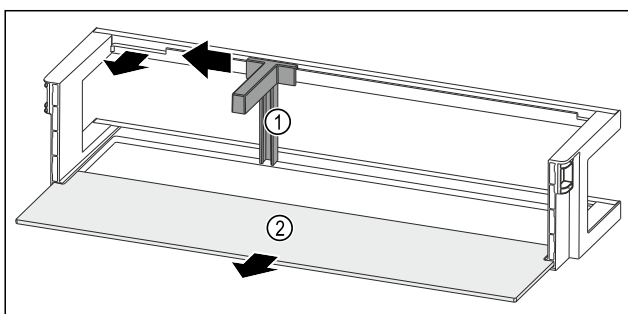

Fig. 111 Door rack with bottle holder and shelf
- Slide the bottle holder Fig. 111 (1) to the side as far as the recess.
- Remove the bottle holder Fig. 111 (1).
- Remove the shelf Fig. 111 (2).